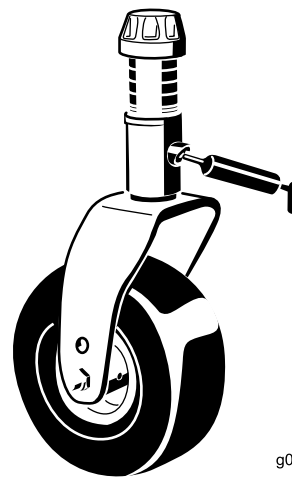

Figure 65
- 2 caster-fork-shaft bushings (Figure 65)